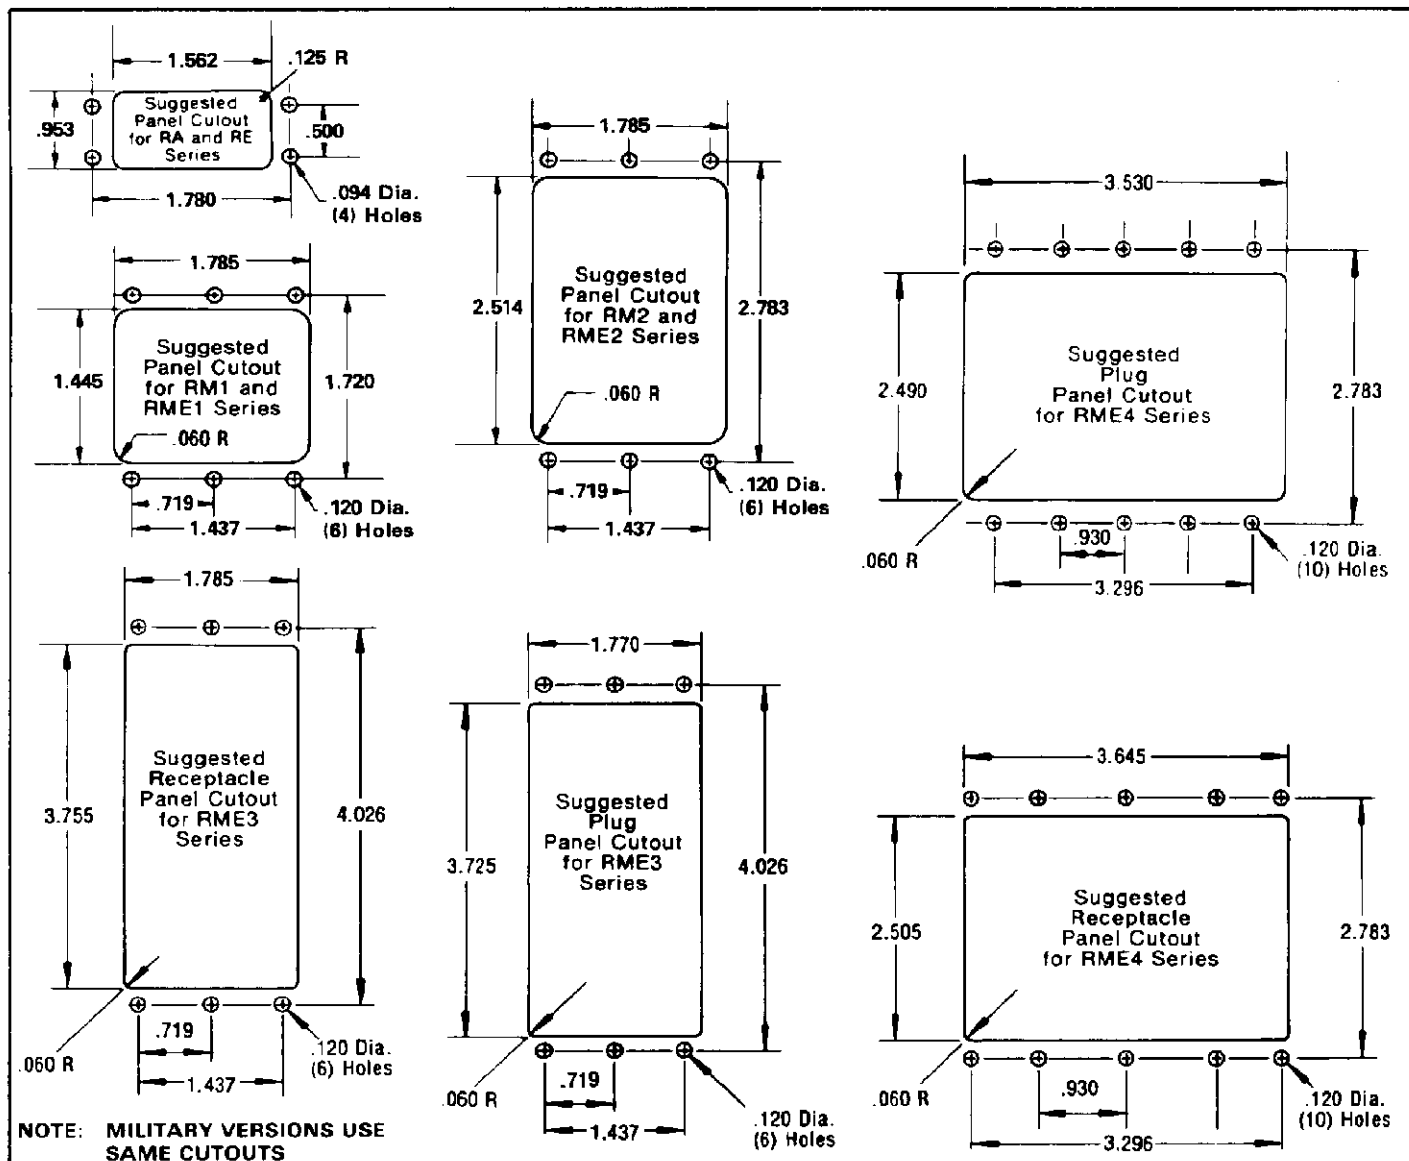

Fig. 8
4. PANEL CUTOUTS (Figure 8)
The connectors are designed for rack-and-panel mounting. Normally, the plug is front-mounted to the rack, and the receptacle is back-mounted to the panel. Panel thickness should not exceed 1/8 in. Figure 8 shows the recommended cutout dimensions.